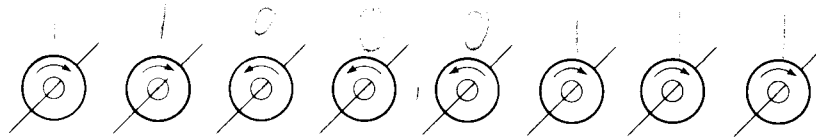

Fig. 1-9 An 8-bit core register.
- 1-11. In Fig. 1-9 clockwise flux stands for binary 1 and counterclockwise flux for binary 0. What is the binary number stored in the 8-bit core register? Convert this byte to an equivalent decimal number.